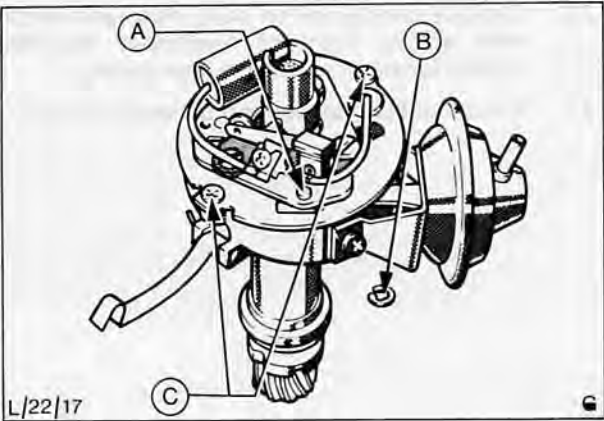

Fig. 52. Base plate removal (Motorcraft distributor)
2. Remove circlip from vacuum unit pivot post and two screws retaining base plate assembly to body, Fig. 52. Detach base plate assembly.